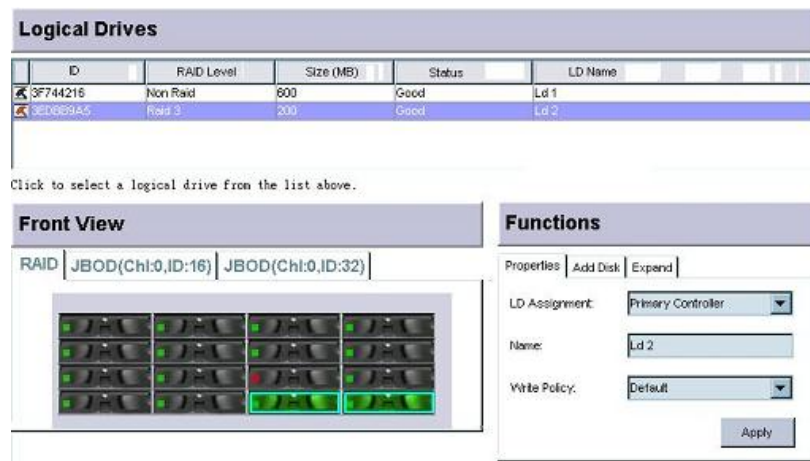

Figure 9-4: List of LDs
Step 2. From the list shown in *Figure 9-4*, select the LD for which you wish to change its characteristics or configure. Once this LD has been selected, its members will appear in the Front View sub-window. At the top of the **Functions** window, three tabs (**Properties**, **Add Disk** and **Expand**) will appear.